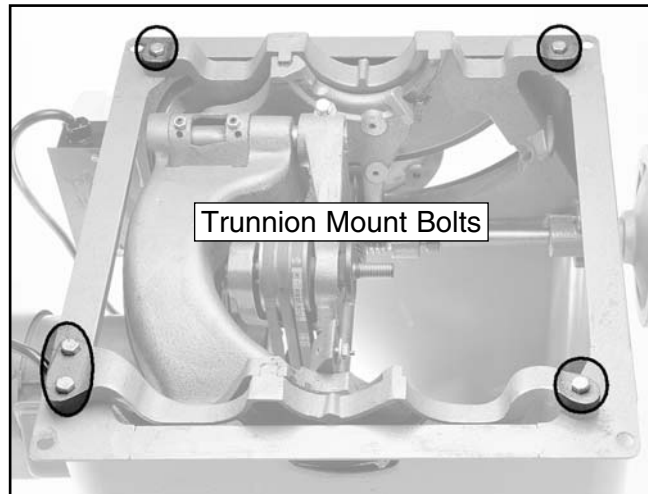

Figure 42. Trunnion mounting bolts.
3. Loosen the four trunnion mounting bolts as shown in **Figure 42**, and nudge to either the left or right depending on where the blade is hitting the saw.